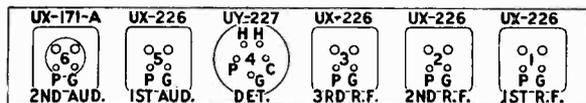

Fig. 1—Top Front View of Radio Tube Sockets
- Test between either filament contact of socket No. 1 and the plate "P" contact. (See Fig. 1.)